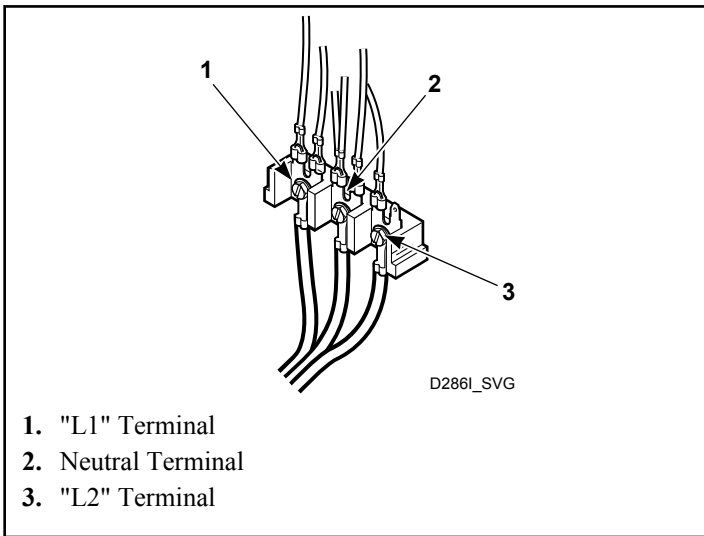

Figure 9
4. Use the three screws from the accessories bag to attach the power cord wires to the terminal block. Refer to Figure 9 .